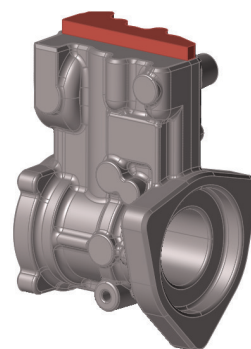

Fig. 1: Pump housing CAD model – gating at top
- On receiving the CAD of the casting part (Fig. 1), the model is taken to Inspire Cast for running simulations with a virtual gating system on the part. Once the gating location is fixed based on the desired simulation results, the shot model for the component is designed in CAD.